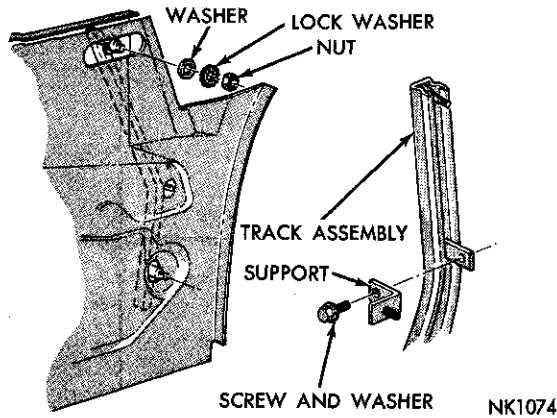

Fig. 110—Quarter Window Rear Track (Imperial)
(1) Remove the nuts and washers attaching the rear track assembly to the door inner panel (Fig. 110).
(2) Remove the nut and washers attaching the center support to the door inner panel.
(3) Slide the track assembly off of the roller assembly on the quarter glass lower frame.
(4) Remove the track assembly through the large access opening in the quarter panel.